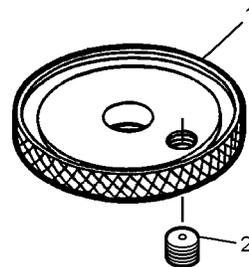

Figure 4-23. Filter End Cap
If the serial number is RHZ097 or above, or has an SEU prefix, or if the inlet filter assembly is marked Part Number 1631030-2, or outer rim of filter end cap (15, figure 4-23) is marked with black lacquer, filter assembly modification is not required.
6. Paint filter end cap (15) with black lacquer as shown by the cross-hatched shaded area in Figure 4-23.
7. Wrap pipe plug (P/N 1631919-2) (ISA) with anti-seize tape and install in filter end cap (15).
8. Install filter post screw (P/N 1631079-2) (8) into filter inlet housing (6).